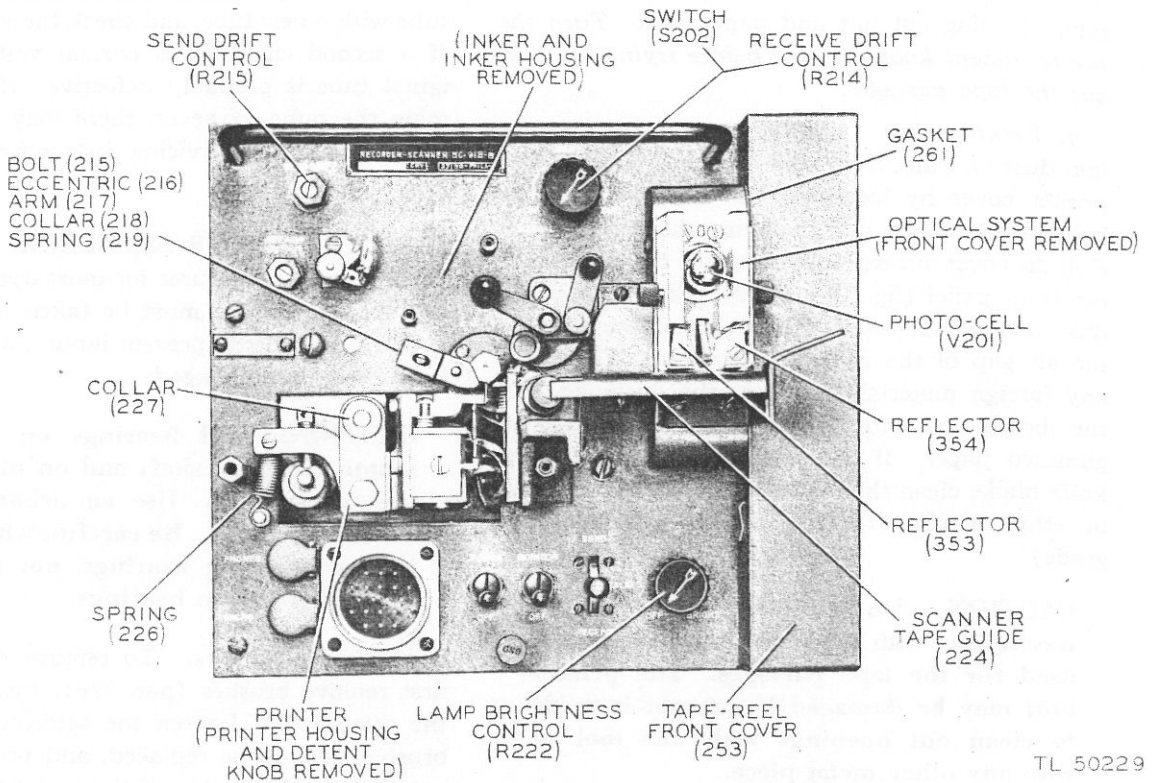

Figure 29—Recorder-scanner front panel
h. Drift control. The two drift controls (R214 and R215), mounted on the front panel of the recorder-scanner (fig. 29), are for the purpose of adjusting the vibrator current. This vibrator current controls the speed of the vibrator, and ultimately the speed of the motor. The SEND DRIFT control (R215) has been adjusted, setting the vibrator speed to exactly 60 vibrations per second. The receive DRIFT control (R214) is intended for use during operation of the equipment, and is switched into the circuit by switch S202, which is on the same shaft as the control. (Switch S202 cuts SEND DRIFT control R215 out of the circuit at the same time.) When an incoming message drifts across the recording tape instead of printing in a straight line, parallel with the edges of the tape, it is because the drive motor at the receiving station is not running at the same speed as the motor at the remote station. Drift control R214 is used to change vibrator speed, and therefore motor speed, at one station to match the vibrator speed at the other station until whichever equipment is out of adjustment can be readjusted.
f. Printer unit. Inspect the printer unit for ink, dust and dirt from time to time. Remove the printer cover by loosening the two thumbscrews holding it in place, and removing the detent knob. Pull the cover out carefully from the recorder-scanner front panel (fig. 29 and 40). Clean out paper dust with a soft brush. Give special attention to the air gap of the magnetic structure. Clean out any foreign material lodged in the openings with the brush, or with scotch tape or moistened gummed paper. If ink has accumulated on the knife blade, clean the blade with a cloth moistened in ethyl alcohol (Federal Spec. 4-1018A, any grade).
(4) When mounting the lens-and-bracket assembly, adjust its position on the optical housing so that the exciter lamp is focused properly. Proceed as follows (with the optical system mounted in its normal position): (See fig. 29 and 30.)
g. Loosen the four binder-head screws holding the front portion of the optical system in place (fig. 29). Move this sub-assembly up or down vertically, in conjunction with the scanner tape guide (224), to the point where the spot of light on the tape is as small as possible for this adjustment. Partially tighten the four screws.
(3) If the two round-head screws and two lock washers holding the gasket (261) and tape-reel front cover (253) in place against the optical housing have been removed, be sure to replace them (fig. 29).